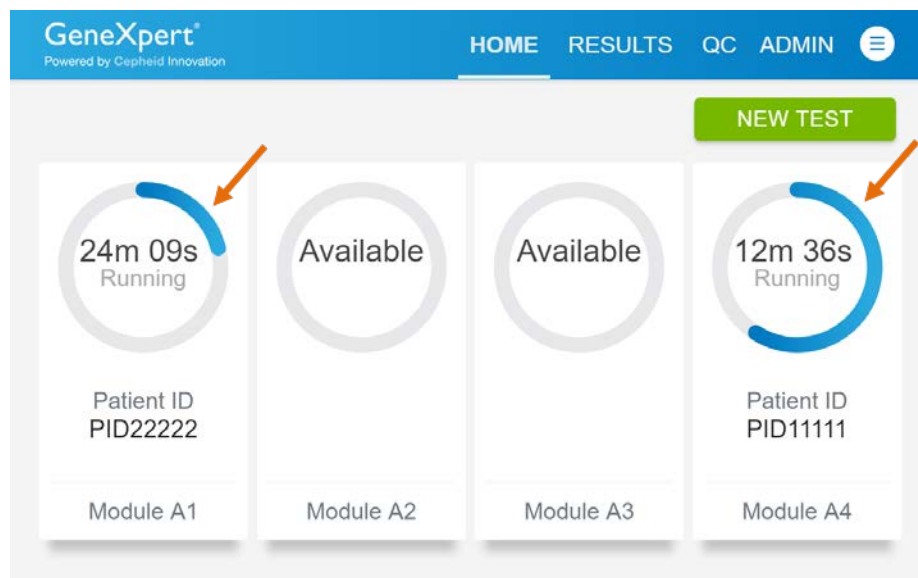

Figure 30. Home Screen showing Two Tests Running
4. After a second test has started, touch the **HOME** button. The status of both tests appears. The Home screen displays the module(s) in use with a circular graphic indicator around each test, and Patient Identification below the module graphic (see Figure 30).